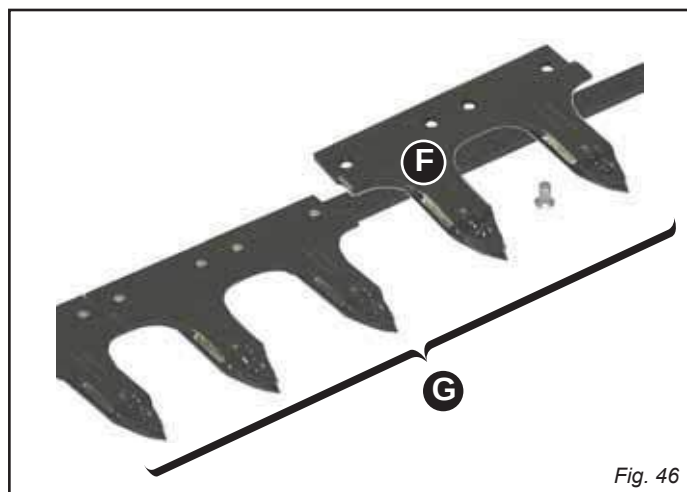

Fig. 46
(G Fig. 46)
REPLACEMENT OF TOOTH (RIVETED) (F Fig. 46)
- Rivet a new tooth with the rivets provided (F, Fig. 46).